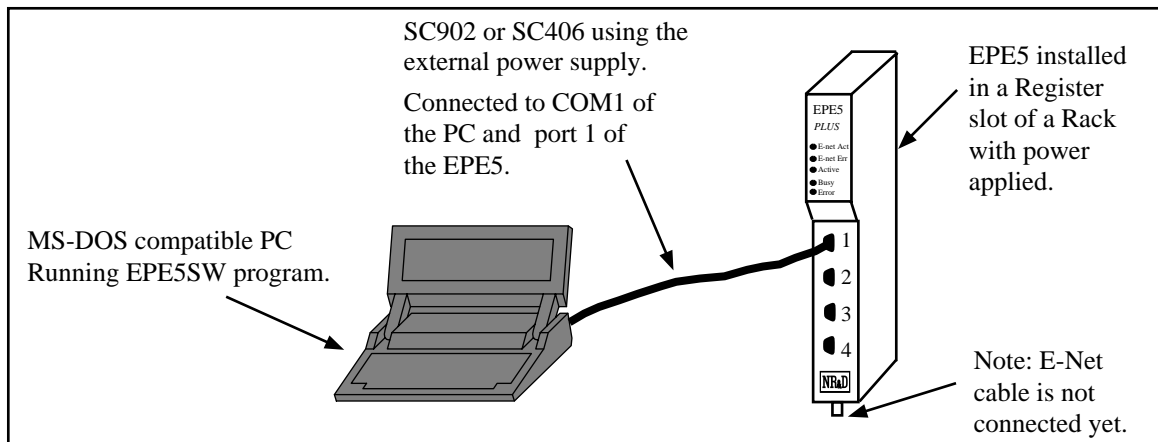

Figure 2-3 EPE5 Initial Configuration Setup
- 1 Connect the personal computer to the EPE5 using a RS-422 connection. The EPE5 should receive its initial configuration by direct connection from an MS/DOS® personal computer COM: port (See Figure 2-3). Niobrara's SC902 (or SC406) RS-232 to RS-422 converter cable can be used to make this connection. Ports 1-4 provide full handshaking of the RTS/CTS pins and do not provide power for the smart cable. **The external power supply for the Smart Cable must be used.** The
If an error occurs in communicating with the EPE5, an error window will open in the lower right corner. F10 will clear the error. Check the COM port setting, route setting, and your cabling. For a direct connection as in Figure 2-3, the default settings should work. For more information about the setup parameters of EPE5SW see page 156.